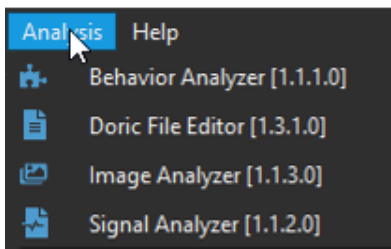

Figure 3.6: Analysis menu
3. **Analysis** (Fig. 3.6) is used to open analysis modules, each of which are described in the following chapters: